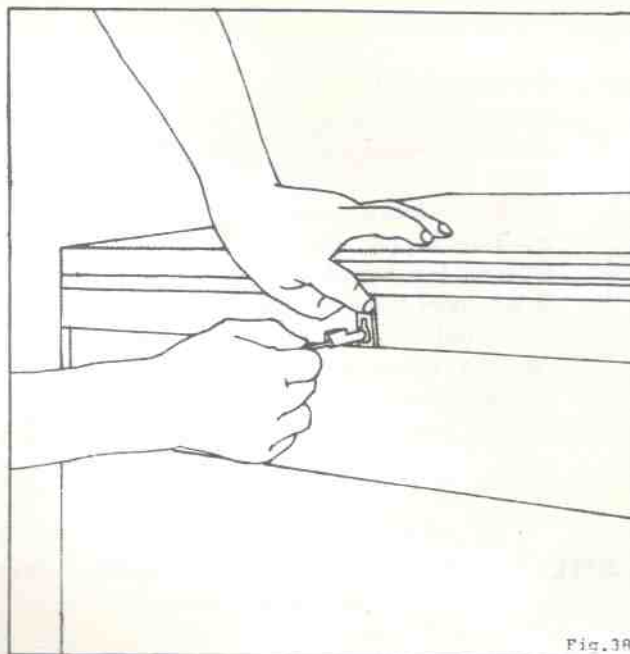

Fig. 38
10. After storing the vaccines, keep the lid properly closed and locked. (fig. 38).